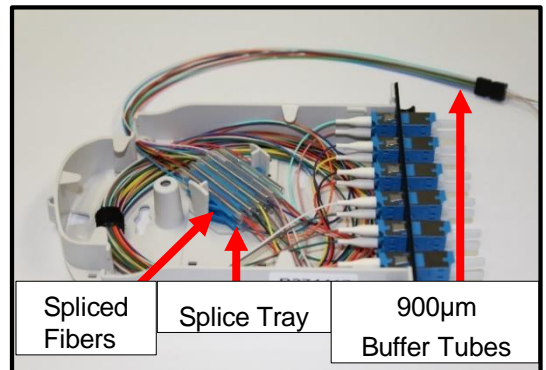

Figure 11
7.1 An example of the first fox cassette is shown in Figure 11. Remember each cassette installation will remain the same process wise. Start by stripping 3 feet of your fiber bundle and identify each individual fiber.